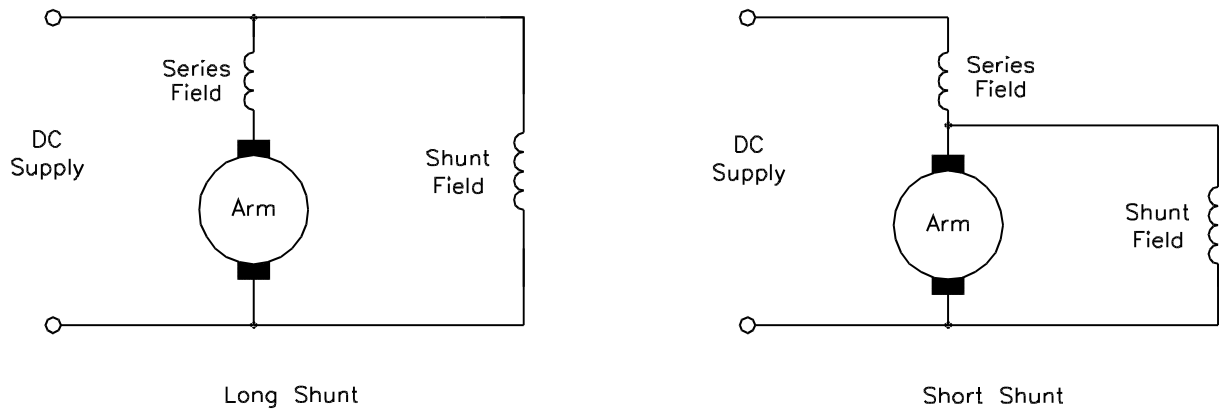

Figure 60
49. The circuit diagram in Figure 60 shows that the windings in the compound motor are the same as those in the compound generator.